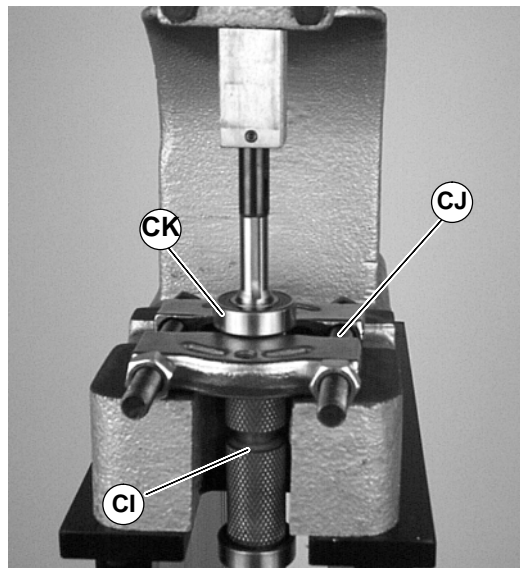

Figure 50
1. Locate drive pulley (CI of Figure 50) in a standard bearing separator (CJ) as shown.